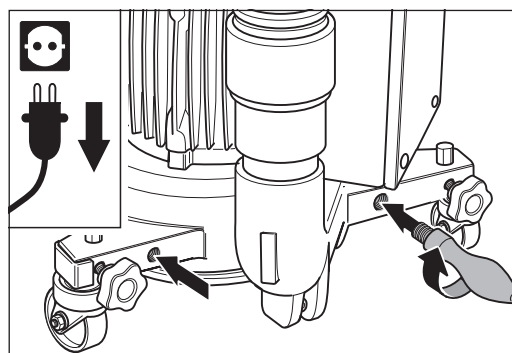

Fig. 32 The machine handle can also be screwed into the fan housing.
- 3 Screw the machine handle into the right-hand side or into the left-hand side of the fan housing and then tighten the handle firmly by hand (fig. 32).